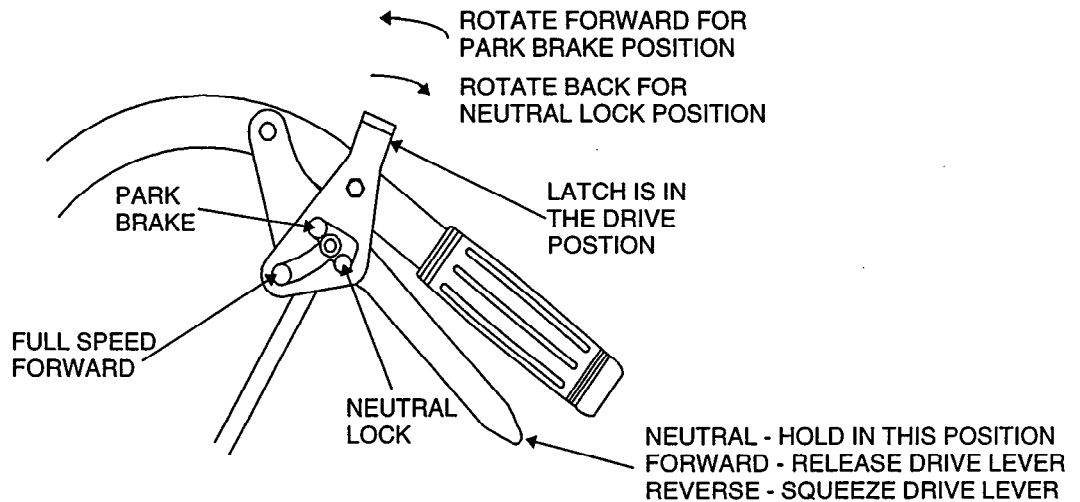

FIG. 12
- 4.1.3 Neutral Lock/Parking Brake Latch: Located directly above the drive levers. The purpose of these latches is to allow the operator to lock the drive levers in a "neutral" position where neither the wheel drive belts nor the brakes engage, or in a "park brake" position where the wheel drive belts are not engaged and the park brake is engaged. To lock the drive levers in "neutral", squeeze the drive levers back, place thumbs on the upper portion of the neutral lock latches and move them to the rear. Release drive levers. To lock the levers in "park brake", squeeze the drive levers back, place thumb on the upper portion of the neutral lock latches and move them ahead. Release drive levers (See Figure 12).
- 4.3.4 Drive Lever/Neutral Lock/Park Brake Latch Operation: To lock the drive levers in neutral, squeeze the drive levers back to the "neutral" position. Place thumbs on the upper portion of the neutral lock latches and move them to the rear. Release drive levers (See Figure 12).
To lock the drive levers in "park brake", squeeze the drive levers back to brake position. Place thumbs on the upper portion of the neutral lock latches and move them to the front. Release drive levers. (See Figure 12)